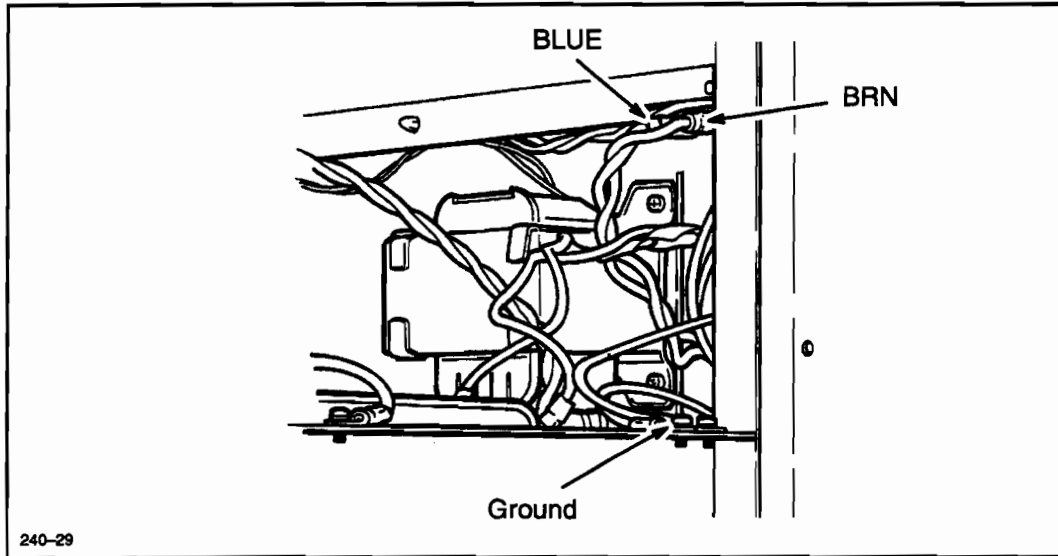

Figure 6-22. Line Receptacle Assembly Removal
1. Switch the plotter OFF (O) and disconnect the ac power cord and interface cable.
4. Using a #2 Phillips screwdriver, remove the screw that attaches the line receptacle ground wire to the chassis. See Figure 6-22.